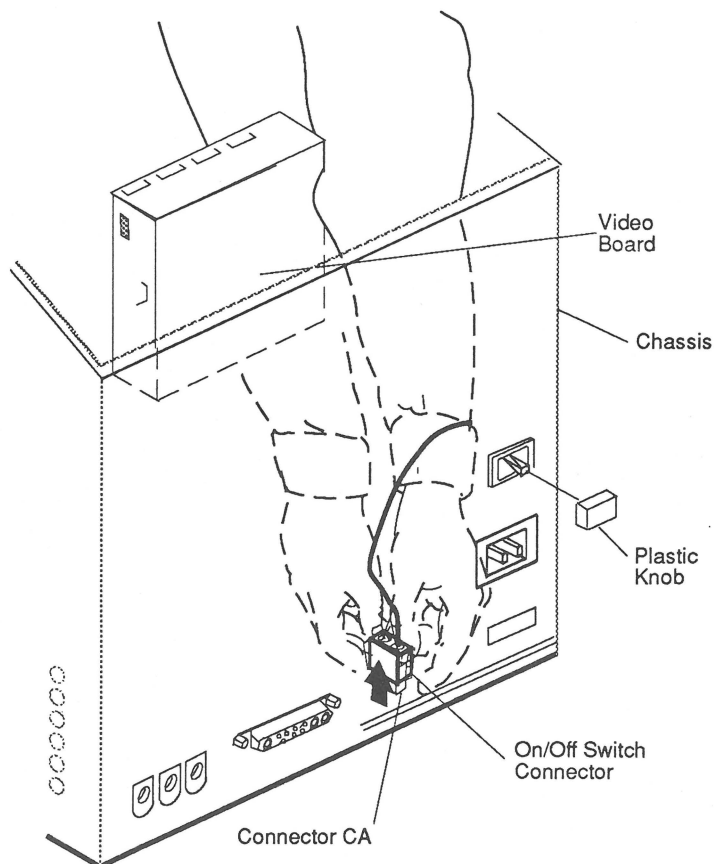

FIGURE 14
3. Pull the plastic knob off the on/off switch (Figure 14).
4. Disconnect the 2-wire, on/off switch connector (**Figure 14**) from the connector labelled **CA** on the main deflection board. (Suggestion: To remove the on/off switch connector, insert your right hand around and beneath the video board as shown in **Figure 14**, and insert your left hand between the video board and the rear of the chassis. Be sure to release the tabs on the sides of the connector.)